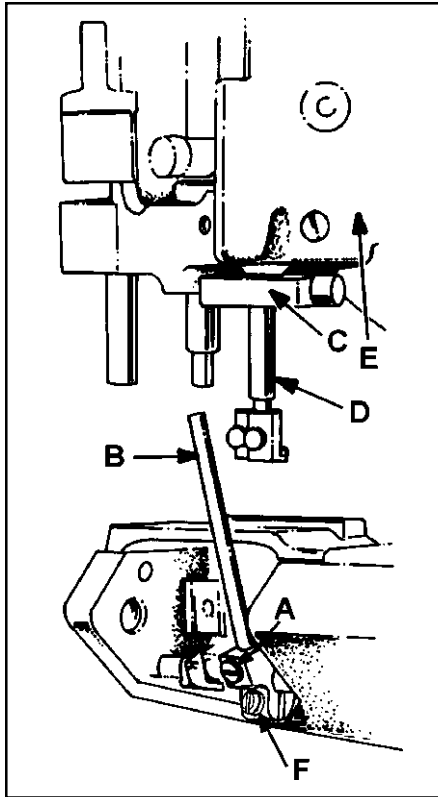
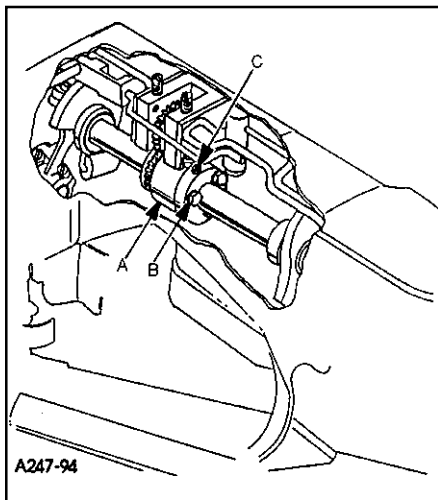

FIG. 2
FIG. 3
To synchronize the machine, remove the needles, presser foot, throat plate, feed dogs and upper feed roller mechanism. Rotate handwheel in the operating direction until the needle bar is at the bottom of its stroke and just begins its upward travel. Loosen screw (A, Fig. 2) and remove the looper for the left hand needle from the looper holder. Insert a straight steel rod (B) $5/32$ " (3.9mm) or $11/64$ " (4.3mm) diameter by $2-1/2$ " (63.5mm) long into looper holder and retighten screw (A). Rotate the handwheel until the rod (B) is at the extreme left and reinstall the throat plate. Loosen screw (F) in looper holder and move the holder left or right until the right side of the rod is approximately $5/32$ " (4.0mm) from the left edge of the throat plate, tighten screw (F). Turn the handwheel in the operating direction, with needle bar rising until rod (B) comes in contact with the edge of the throat plate. At this point, clamp Union Special timing gauge No. TT147 (C) around the needle bar (D), flush against the underside of the machine casting (E). Rotate handwheel in the opposite direction until either the gauge contacts the machine casting on the up stroke of the needle bar or the rod contacts the edge of the throat plate. Maximum allowable clearance between gauge and casting or rod and throat plate is $.005$ " (0.1mm)
Both ends of the adjustable split coupling are secured to the crankshaft and main shaft by spot screws and set screws. On the main shaft end of the coupling (A, Fig. 3) three screws (B) thread horizontally through the coupling. The holes in the main shaft end of the coupling are larger than the diameter of the screws, permitting several degrees of rotation in either direction to properly synchronize the needle and looper. Loosen the three horizontal clamp screws (B, Fig. 3). With rod (B, Fig. 2) at its farthest position to the left, snug the uppermost horizontal clamp screw enough to hold coupling (A, Fig. 3) in position. If the handwheel is turned in reverse of operating direction and gauge (C, Fig. 2) on needle bar (D) contacts the machine casting (E) before rod (B) contacts the edge of the throat plate, loosen horizontal clamp screw (B, Fig. 3) which was snug, while holding the coupling in place with an Allen wrench in set screw (C). Rotate the handwheel slightly in reverse of operating direction, snug the uppermost horizontal clamp screw (B), recheck synchronization. If the handwheel is turned in reverse of operating direction and the rod contacts the edge of the throat plate before the clamp gauge contacts the machine casting, adjust as before, except turn the handwheel slightly in the operating direction. Use shim stock to insure no more than $.005$ " (0.1mm) exists between gauge and casting or between rod and throat plate, in both the operating and reverse directions of the handwheel. When this setting has been made, tighten the three horizontal clamp screws (B, Fig. 3) securely, and recheck both clearance points with $.005$ " (0.1mm) shim gauge to assure no slippage occurred while tightening the screws.